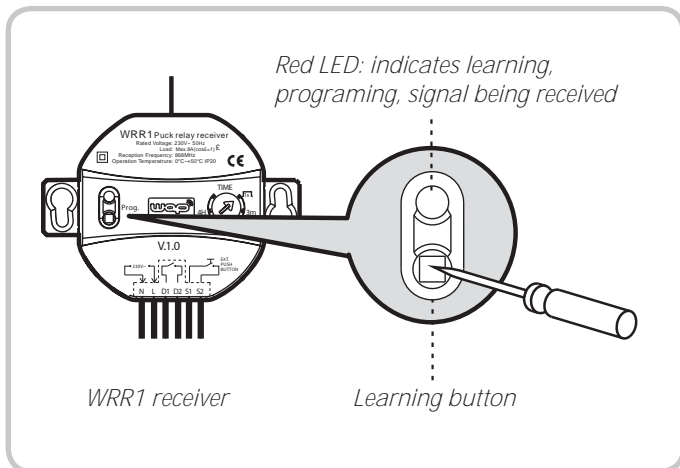

Fig. 7
The WBT-230 transmitter is used as an example (see Fig. 7).
- Install the transmitter and start the extractor fan so that the WBR-230 transmits a signal. Press the learning button, Fig. 7 WRR1.